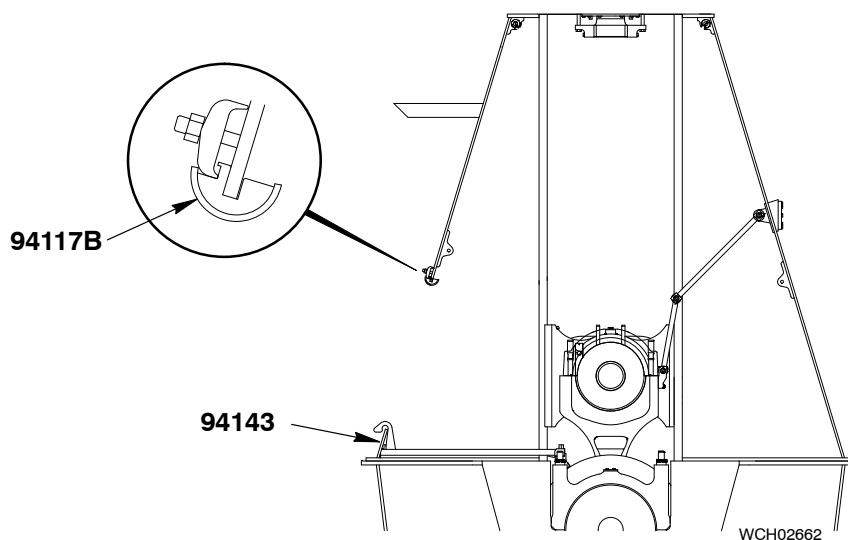

Fig. 1
- 3) Install the platform (94143, Fig. 1).